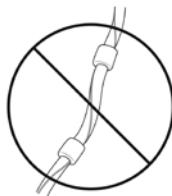

Figure 38
**CAUTION:** Check catheter at primary site and exit-site to ensure the catheter is not twisted or kinked (Figure 38).